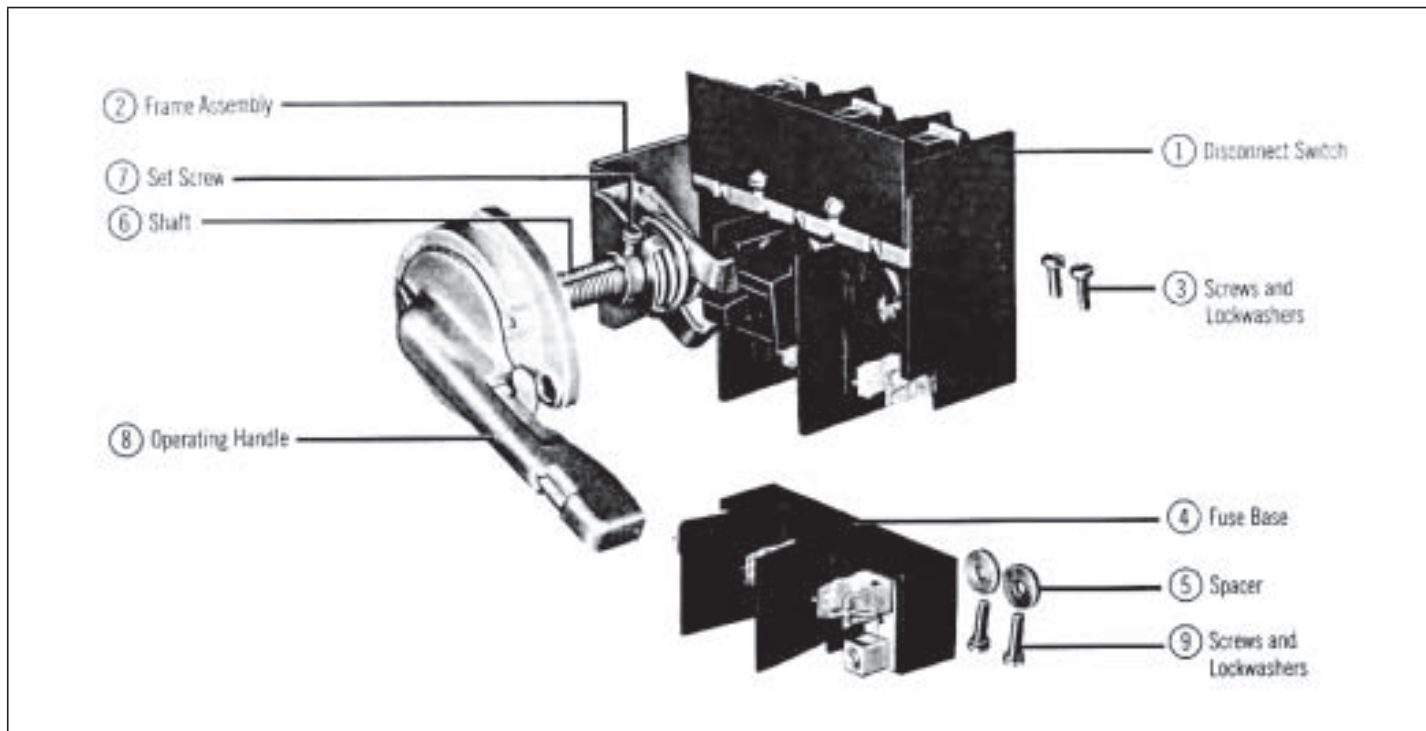
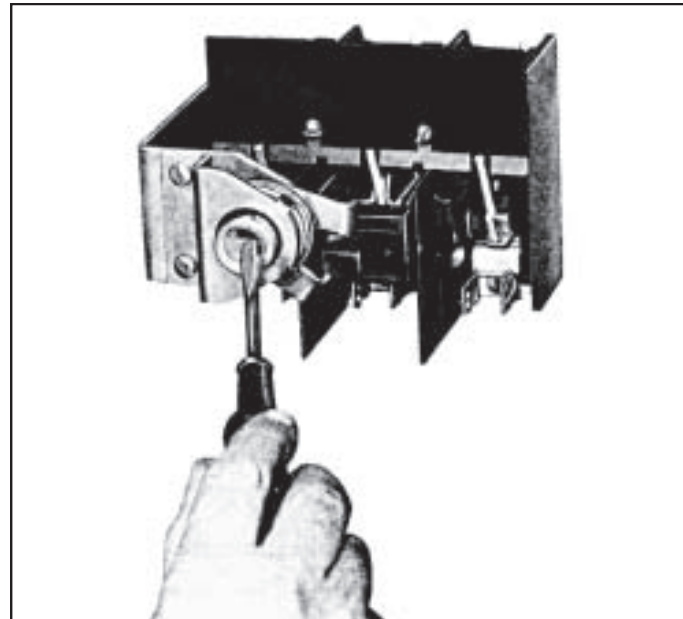
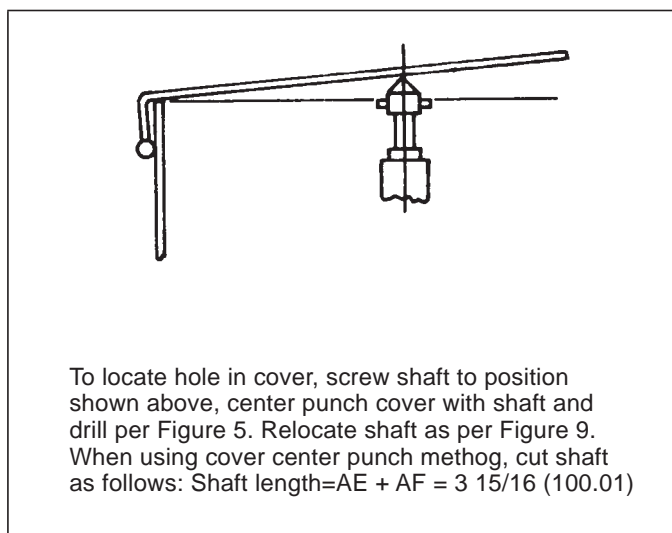

Fig. 1. Typical Installation and Identification of Parts.
Fig. 2. Special Switch Mounting.
Fig. 7. Center Punching Cover Using Shaft.
1. Mount disconnect switch (1) and frame assembly (2) in enclosure using screws and lock washers (3) from kit. See Figure 1. To reach disconnect switch mounting hole located under frame, insert screw driver through threaded opening as shown in Figure 2. See Figures 5 and 6 for drilling and location of holes.
2. If using a fusible switch, also mount the fuse base (4) and spacers (5), with hardware (9) from kit.
3. Determine correct shaft length and cut off as required. See Figures 7 and 9.
6. Shaft may be used as a center punch to locate hole in cover. Follow instructions in Figure 7.